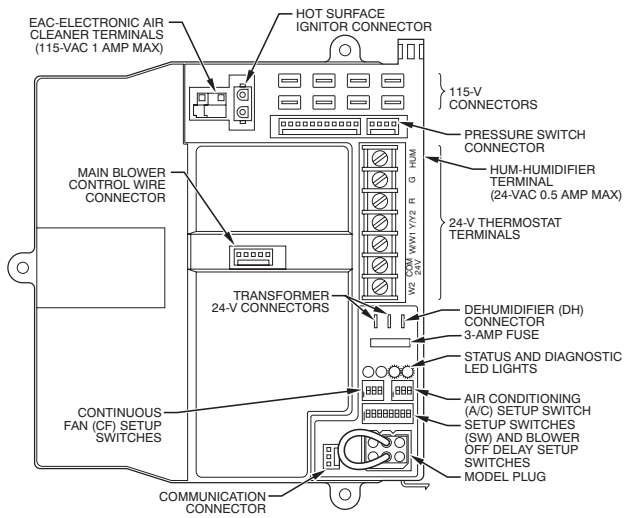

Fig. 65 - Furnace Control for Variable-Speed Condensing Furnace (HK42FZ012)
- Turn Setup Switch SW1-2 on furnace control ON. (see Fig. 65.)